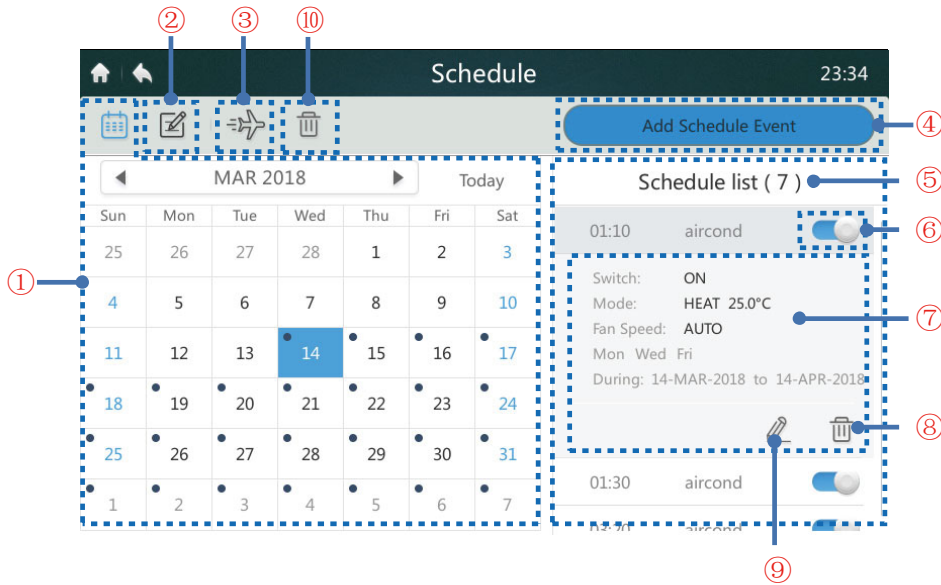

Figure 19 Homepage of Schedule page
1. Tap the add schedule button marked "4" in Figure 19 to enter the interface, as shown in Figure 20.
1. Tap the "➡" button marked "3" in Figure 19 to enter holiday settings, as shown below. Schedules are not implemented during the holiday period.
Tap the "🗑️" button marked "10" in Figure 19 to delete all the schedules settings. The following prompt appears, as shown below. Tap "Delete" to delete the schedule or tap "Cancel" to cancel the operation.